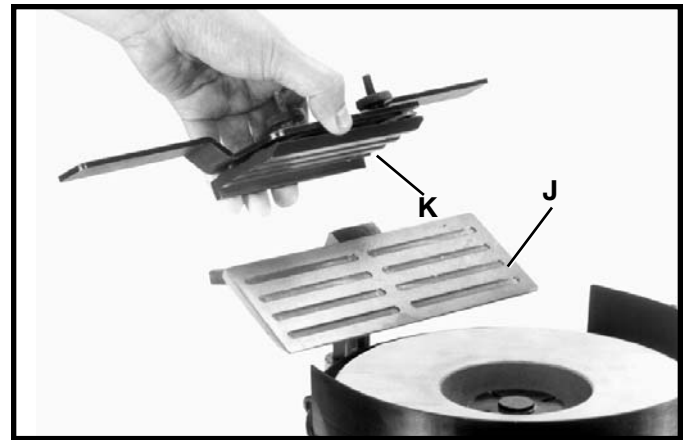

Fig. 15
6. Place tool and chisel holder (K) Fig. 15, in position on base (J).